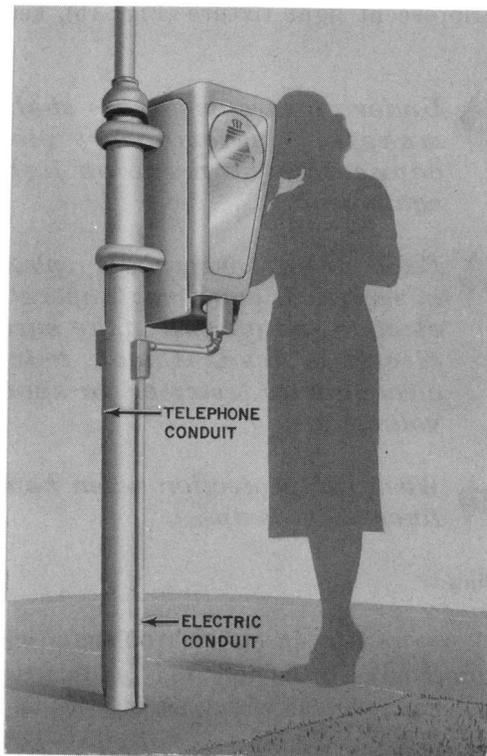

Fig. 2—Walk-Up Installation, Post Mounted
2.04 The walk-up and drive-up feature of this type installation makes it possible for the mounting to be mounted on the same type pole or wall whether the customer is walking or driving a motor vehicle (Fig. 2, 3, or 4).